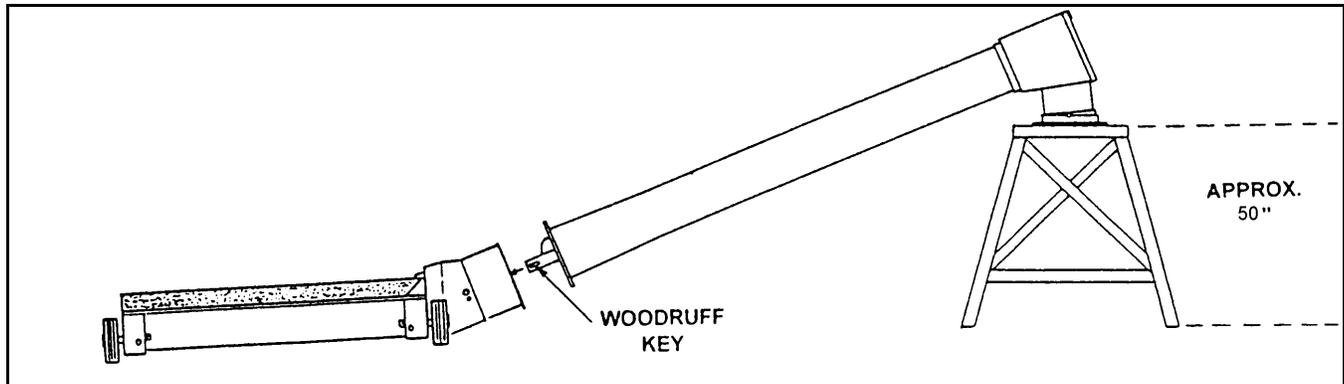

Figure 3.27
See Figure 3.27–3.29.
5. Open service door on hopper, then bring tube and hopper together guiding flight shaft into u-joint, see Figure 3.27.